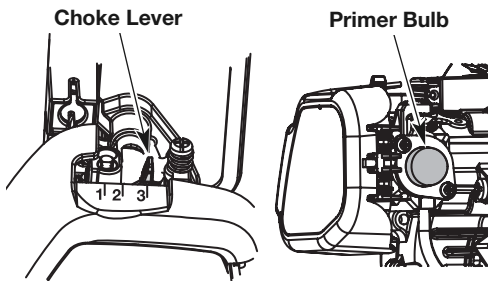
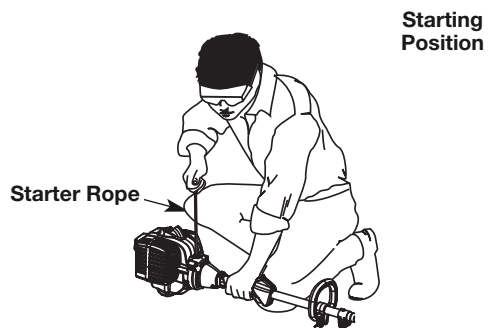

Fig. 8
Fig. 9
WARNING: Avoid accidental starting. Make sure you are in the starting position when pulling the starter rope (Fig. 9). To avoid serious injury, the operator and unit must be in a stable position while starting.
3. Fully press and release the primer bulb 10 times, slowly. Some amount of fuel should be visible in the primer bulb and fuel lines (Fig. 8). If fuel can not be seen in the bulb, press and release the bulb until fuel is visible.
4. Place the choke lever in **Position 1** (Fig. 8).
5. Crouch in the starting position (Fig. 9). Squeeze the throttle control lever. Pull the starter rope 5 times.
6. Place the choke lever in **Position 2** (Fig. 8)
9. Continue squeezing the throttle control, move the choke lever to **Position 3** (Fig. 8) and continue warming the engine for an additional 60 seconds. The unit may be used during this time.
IF... the engine hesitates, return the choke lever to **Position 2** (Fig. 8) and continue warm-up.
3. Fully press and release the primer bulb 10 times, slowly. Some amount of fuel should be visible in the primer bulb (Fig. 8). If fuel cannot be seen in the bulb, press and release the bulb until fuel is visible.
4. Move the choke lever to **Position 1** (Fig. 8).
5. Crouch in the starting position (Fig. 9). Place the electric starter or power start bit into the back of the unit. Refer to the Operation section of the Electric Starter or Power Start Bit operator's manual.
6. Squeeze the throttle control lever. Press and hold the electric starter or drill ON (I) button for 2 seconds.
7. Move the choke lever to **Position 2** (Fig. 8).
8. Squeeze the throttle control lever, press and hold the electric starter or drill ON (I) button for 2-second intervals until the unit starts.
10. Continue squeezing the throttle control, move the choke lever to **Position 3** (Fig. 8) and run the unit for an additional 60 seconds. The unit may be used during this time